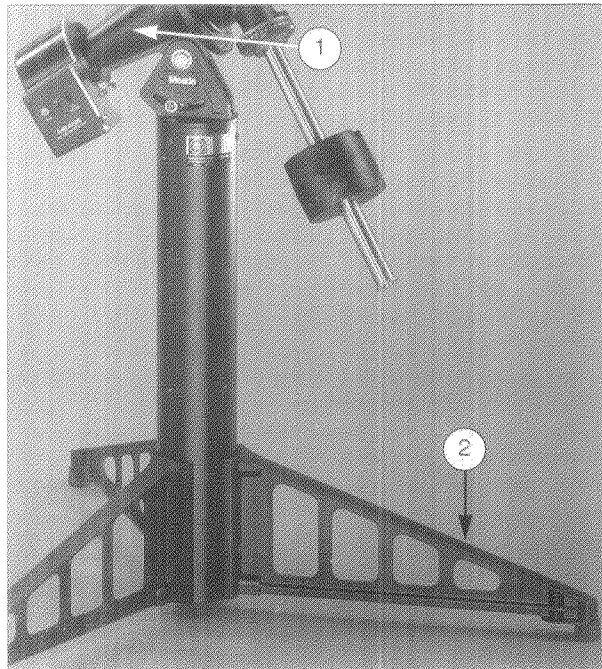

Fig. 6: Aligning the Telescope With the Celestial Pole. (1) Polar Axis, (2) North-Pointing Leg.
- a. Identify the tripod leg designated as the "North-Pointing Leg" (2, Fig. 6) (the leg that is parallel to the Polar casting when viewed from above).